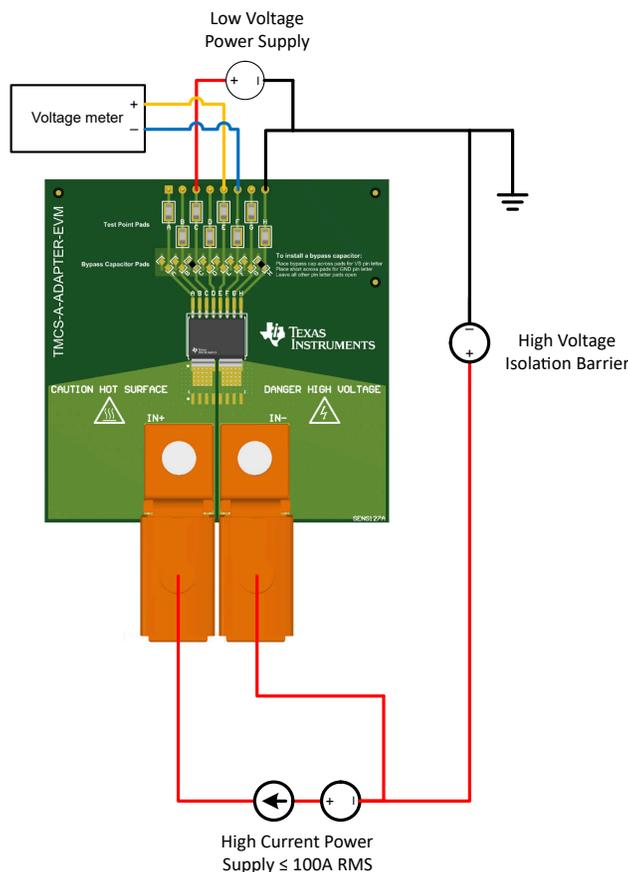
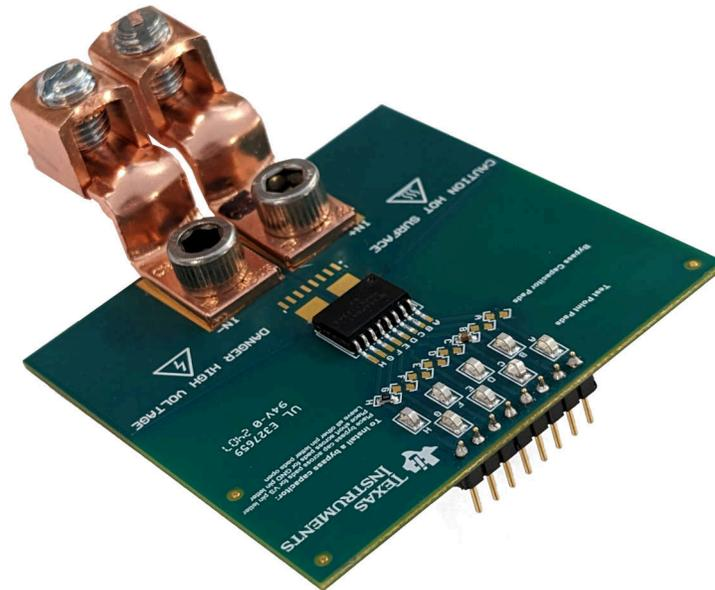

Figure 1-1. Low-Side Forward Current Setup for Reinforced Isolation
Figure 2-1. Fully Assembled EVM with TMCS1123 device
The following are instructions to set up and use the TMCS-A-ADAPTER-EVM. Figure 1-1 shows an example of a simple setup using the TMCS1123 pinout. This device has reinforced isolation up to 1300V DC, and external supplies are distinguished by *high current* (HC) for load and *low voltage* (LV) for DUT supply. The HC supply can be isolated and at a different potential than the LV supply.
- a. As an example, the TMCS1123 device uses the DVG package pins 8 and 3 for GND and V_s respectively. These pins correspond to the EVM traces labeled **C** and **H** respectively, so the bypass capacitor should be soldered to C and the jumper resistor should be soldered to H. An illustration of this is shown in Figure 1-1, and a picture is shown in Figure 2-1 below.
1. As illustrated in Figure 1-1, for a low-side measurement, connect the electronic load positive input terminal to the positive terminal of a supply capable of sourcing the desired amount of maximum load current. For a high-side measurement, connect the electronic load positive input terminal to the load sourcing terminal (IN+ or IN-) of the EVM. For high-side measurement of forward current, IN- sources to the electronic load; for reverse current, IN+ sources to the load.